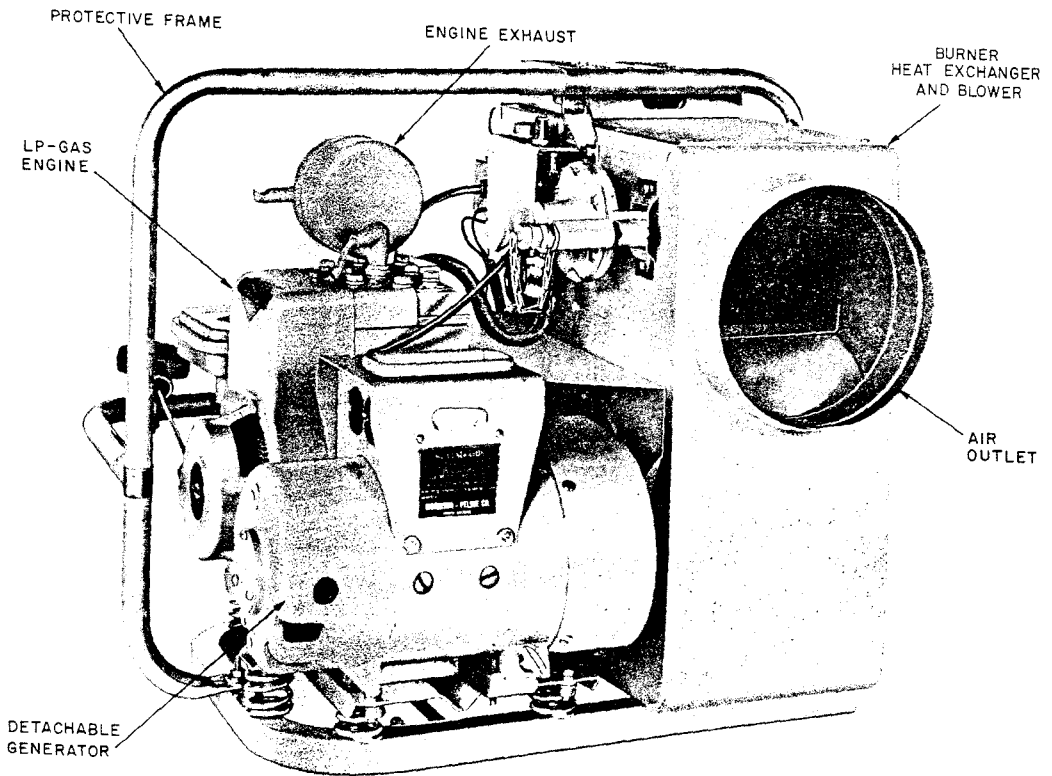
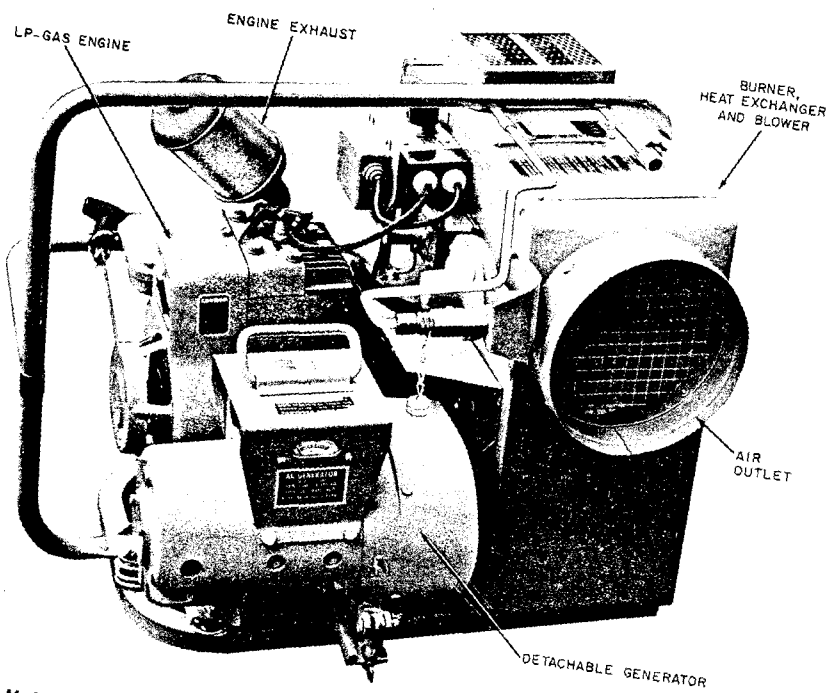

Fig. 1—MoPeCo® Model PEG-8 Generator-Heater-Ventilator
Fig. 2—MoPeCo® Model PEG-8A Generator-Heater-Ventilator With B Heat Exchanger
2.02 Fig. 1 illustrates the PEG-8 and Fig. 2 illustrates the PEG-8A.